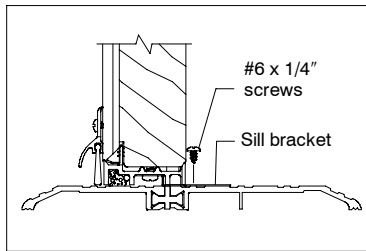

Figure 6
- Pre-drill screw holes through the sill brackets into the sill using a 7/64" drill bit. Attach the sill brackets with #6 x 1/4" screws. See figure 6.